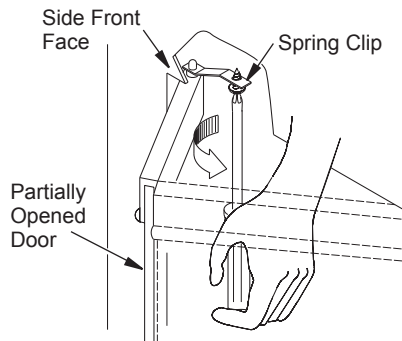

Figure 16 - Adjust Glass Door
7. To adjust doors, slide partially open. Using a Phillips screwdriver, loosen hold-down screws on spring clips (see Figure 16).
Note: If pins do not align into spring clips, slightly loosen retaining screws on each clip (see Figure 16, page 8). Reinsert panel into each spring clip and align panel into lower locating holes. Remove panel, finish tighten screws and reinsert panel.